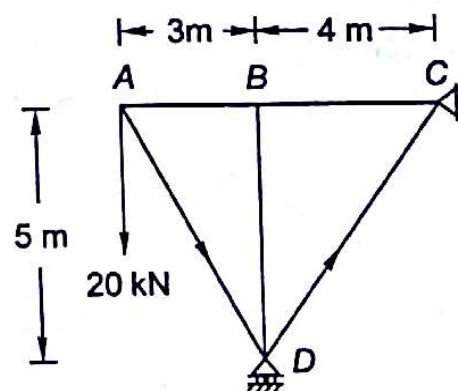

Fig. 4.40
4.11 A truss ABCD hinged at C, roller supported at D is subjected to a vertical load 20 kN at joint A. What is the reaction at C (Fig. 4.40)?